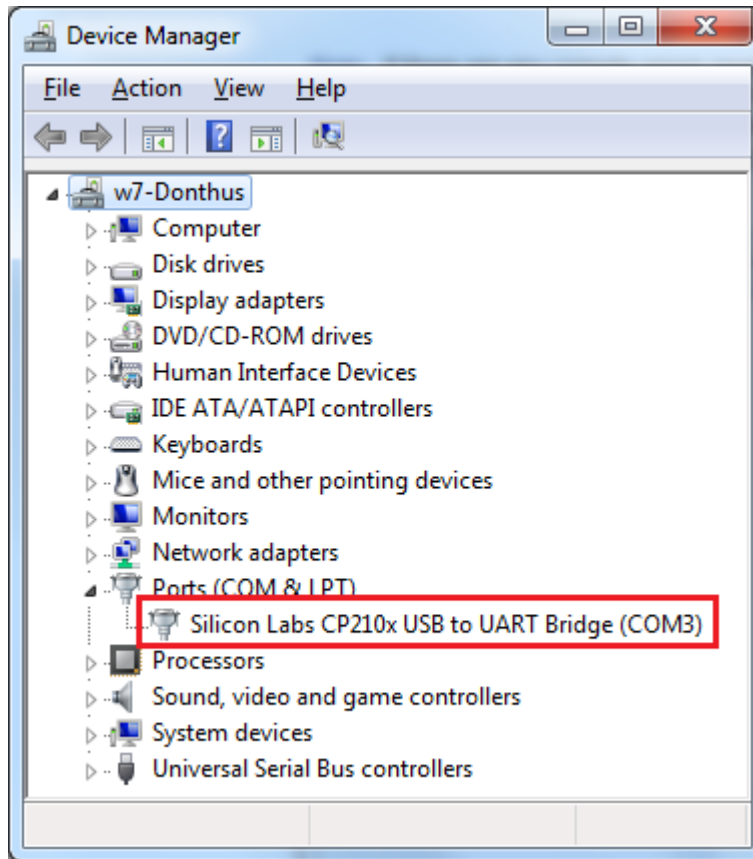

Figure 17 · Device Manager Listing Silicon Labs CP210x USB to UART Bridge
2. If the Silicon Labs CP210x USB to UART Bridge drivers are automatically detected (this can be verified in Device Manager), as shown in Figure 17 . . Proceed to next step; otherwise follow Step 6 - Installing Drivers for the USB to RS232 Bridge.